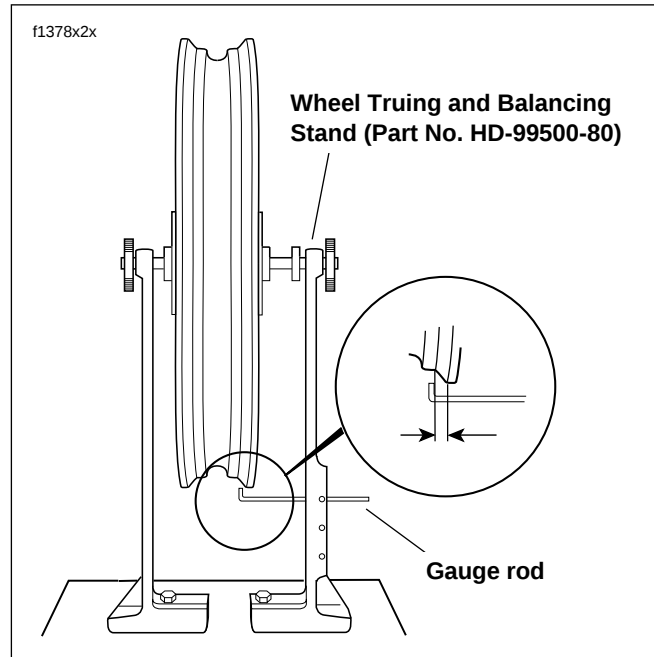

Figure 2-9. Checking Cast Rim Lateral Runout
1. See Figure 2-9. Install truing arbor in wheel hub and place wheel in WHEEL TRUING AND BALANCING STAND (Part No. HD-99500-80).